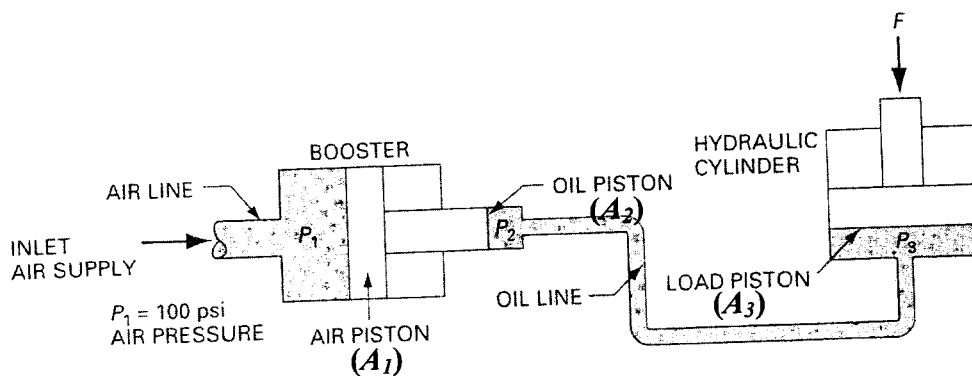

Figure S2.2
b) Figure S2.2 shows a pressure booster system to drive load,  $F$  through hydraulic cylinder. The data given as follows: